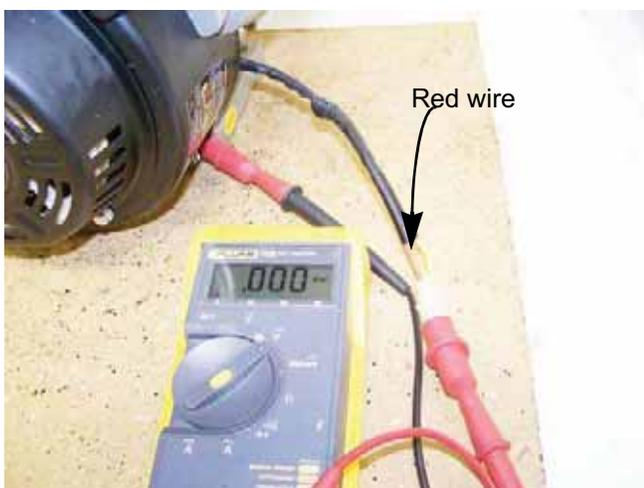

Figure 6.27
8. Move the red (+) to the red wire of the charger harness. See Figure 6.27.